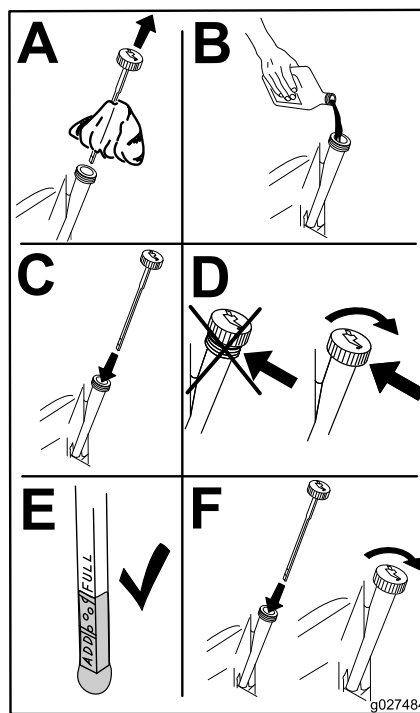

Figure 69
- Slowly pour approximately 80% of the specified oil into the filler tube and slowly add the additional oil to bring it to the **Full** mark (Figure 69).